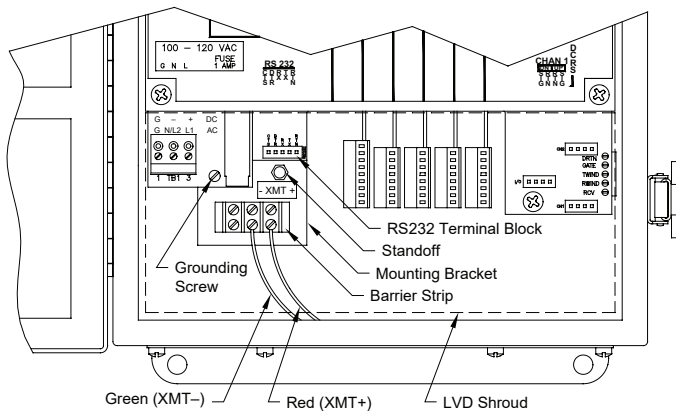

Figure 9: Interface converter mounting
A special bracket containing the serial interface converter and a three-terminal barrier strip is mounted inside the model GF868, just below the RS232 terminal block (see figure 9). The standard RS232 terminal block is wired to the input of the serial interface converter, and the RS-485 output of the serial interface converter is wired to the barrier strip.
Standard factory wiring of the RS485 serial interface is configured for point-to-point wiring. That is, a single model GF868 may be wired directly to a single personal computer. To connect the RS485 serial interface, refer to figure 9 and complete the following steps:
3. Remove the serial interface converter *mounting bracket* by removing the standoff located just below the RS232 terminal block and the grounding screw just to its left (see figure 9).